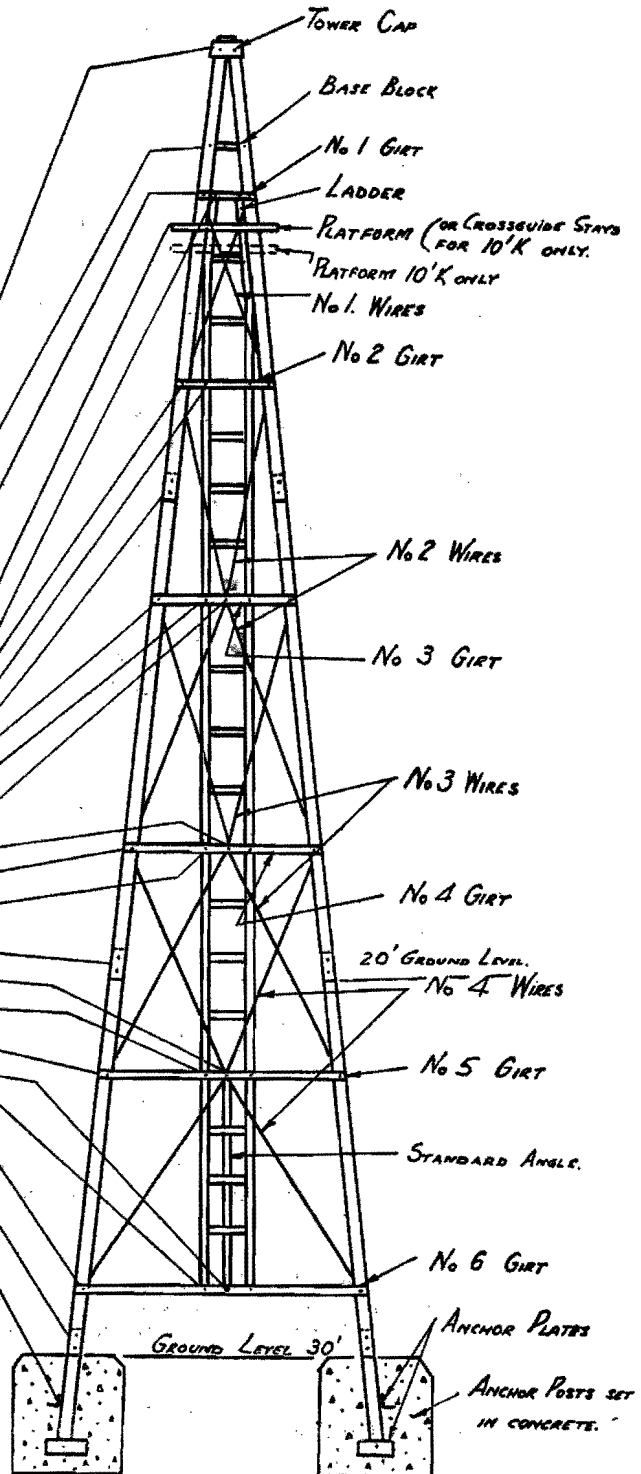
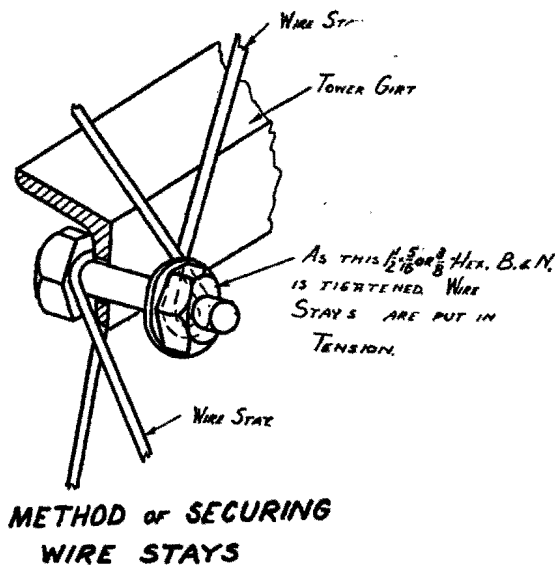
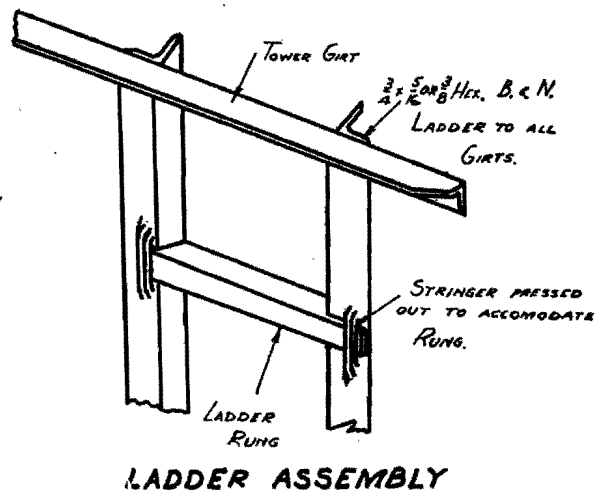
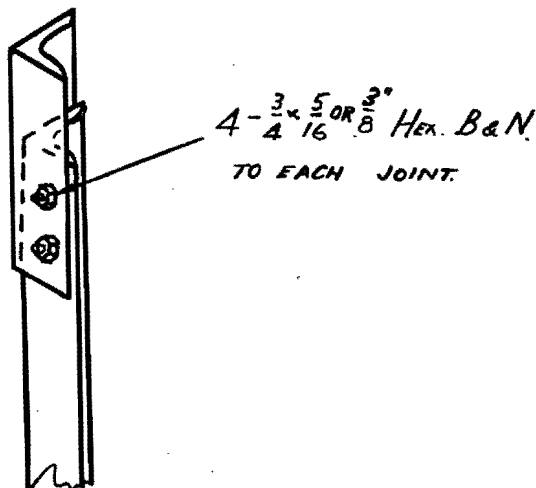

Fig. 3.
Fig. 4.
Fig. 5.
Fig. 6.
Open the bundles and segregate contents in threes for 3-post tower, or fours for 4-post tower—of similar sizes and kind—but do not disturb the labels on the wire braces. Sort out the bolts in a similar manner (see Fig. 3), then assemble all ladder sections (Fig. 5).
Start at the top end by bolting the 10 ft. leg sections to the inside of the tower cap, then bolt the base block corner bolt lugs upwards in position at the next series of holes down from the tower cap. The girts go outside of the legs and the braces inside. Bolt the shortest girts and the single braces at the first set of holes from the top and on one side, also include the first 10 ft. ladder section inside and flat against the girts, but over the braces. The heads of the bolts go on the inside of the tower. Leave all bolts with a full nut, but untightened, until the tower is complete. Add girts, braces (Fig. 4), ladder (Fig. 5), and legs (Fig. 6) progressively until finished, and when a five-foot leg section is included in the tower, such section is always placed at the bottom end. Standard angles about 5 ft. long are provided and are to be bolted between the centres of the bottom panel girts, one each side, with the exception of the ladder side on all towers regardless of heights, as per Fig. 3. When bolting leg section together the bottom of the upper angle must be outside the top of the lower angle (Fig. 6).
**TOWER BRACES** (all given lengths are overall). No. 1 Braces are single and go between the first and second girts, as shown on Fig. 3. No. 2 Brace bundle has double or "hairpin" braces 4 ft. 10 $\frac{1}{4}$  in. long, also double braces 5 ft. 1 $\frac{3}{4}$  in. for each side of the tower. The two ends of the 4 ft. 10 $\frac{1}{4}$  in. brace bolt one on each end of No. 2 girt with the centre loop bolted to centre of No. 3 girt. The centre loop of the 5 ft. 1 $\frac{3}{4}$  in. brace goes on the same bolt, but on the opposite side of No. 3 girt, and its two ends bolt one on each end of No. 4 girt.